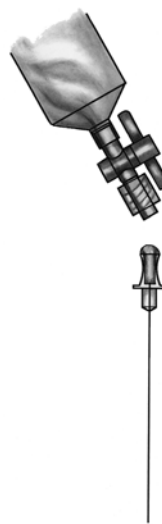

Figure 12: Filling the hub of the refill needle
3. Fill the hub of the refill needle with Rinse Buffer from the RB refill syringe and attach it to the stopcock. (See Figure 12) Prime the refill needle completely. Close the stopcock.